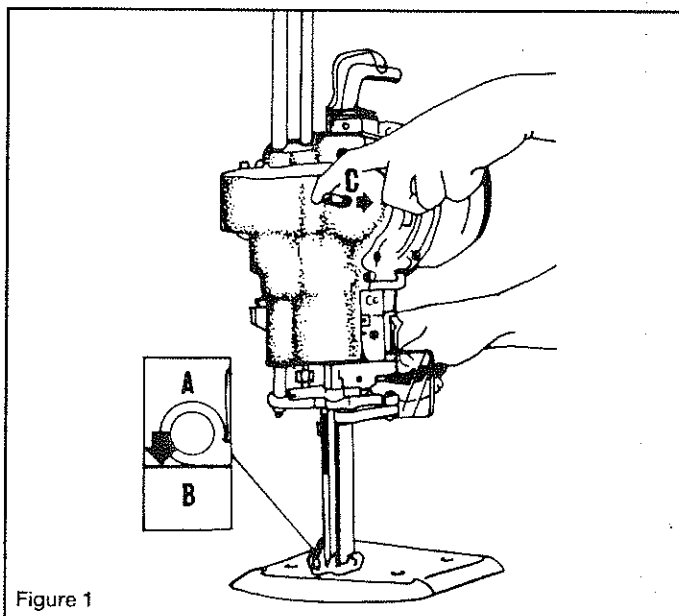

Figure 1
2.3 TO SHARPEN BLADE (Figure 1)